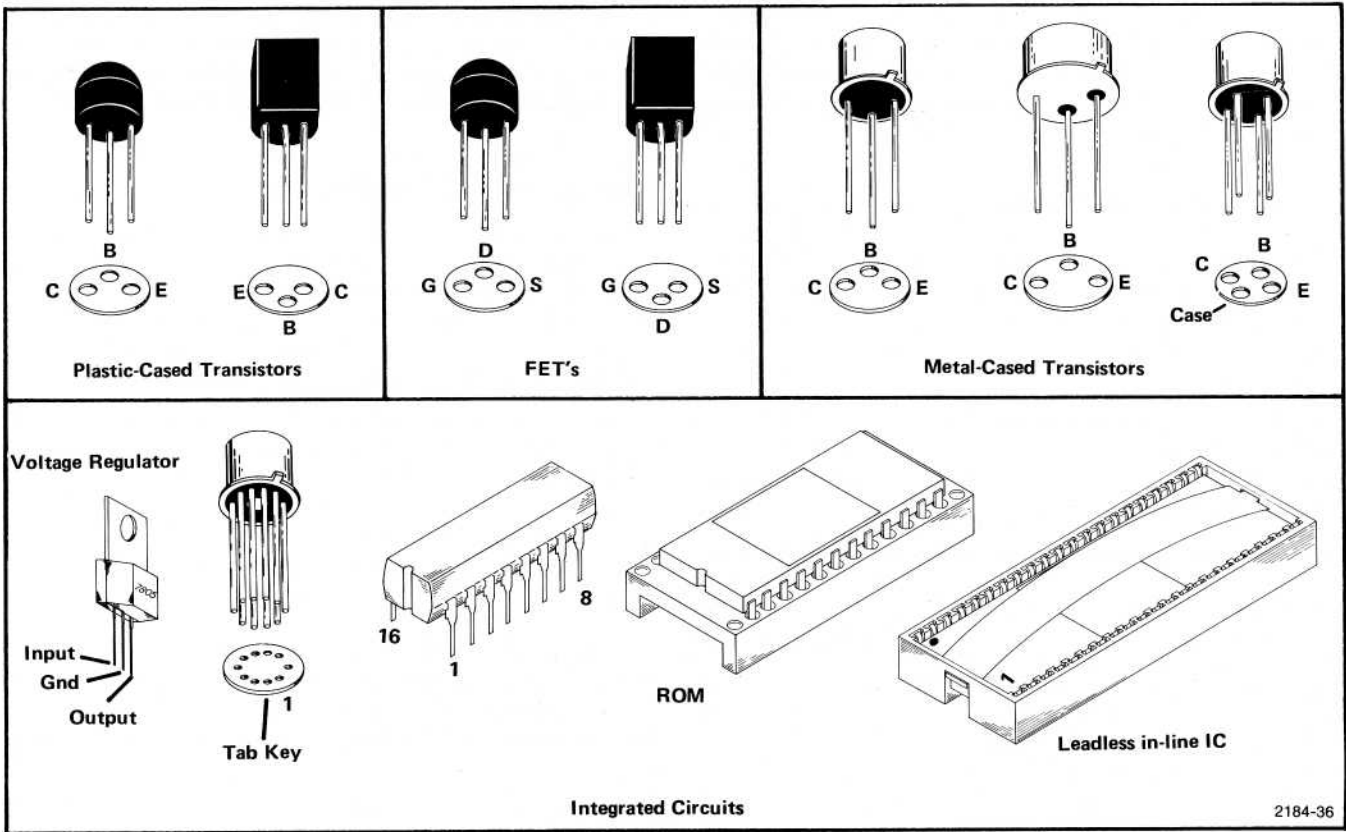

Fig. 5-4. Electrode configuration for semiconductor components.
**Transistor and Integrated Circuit Electrode Configuration.** Lead identification for the transistors is shown in Fig. 5-4. IC pin-out diagrams are shown, when necessary, on the back of the adjoining pullout schematic diagram.
d. Be sure the component (transistor or IC) is inserted properly in the socket (see Fig. 5-4 or the manufacturers data sheet).
Replacement semiconductors should be of the original type or a direct replacement. Fig. 5-4 shows the lead configuration of the semiconductors used in this instrument.